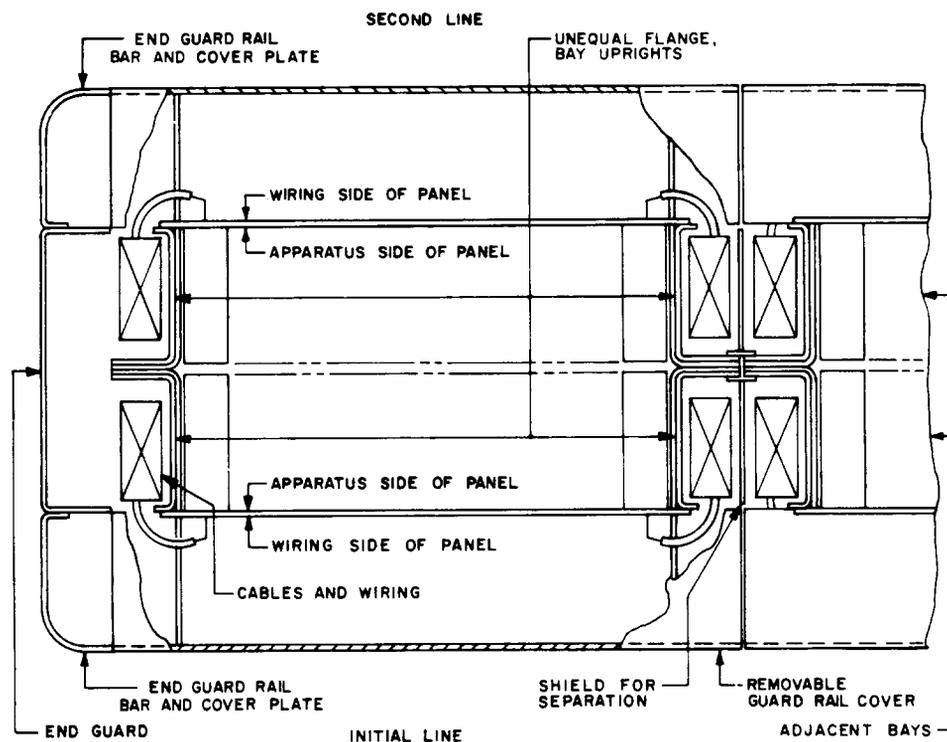

Fig. 4—Two Lines of Bays in Back-to-Back Line-up
1.06 The bay frameworks are not arranged for double-sided mounting, wherein the equipment is mounted on both flanges of the uprights and is wired and maintained from both sides of the frames. They may be used for back-to-back mounting, wherein the equipment in each line-up is wired and maintained from one side of that line-up and the two line-ups are located back-to-back. In this case, the secondary line-up is fastened to the primary line-up. (See Fig. 4.)